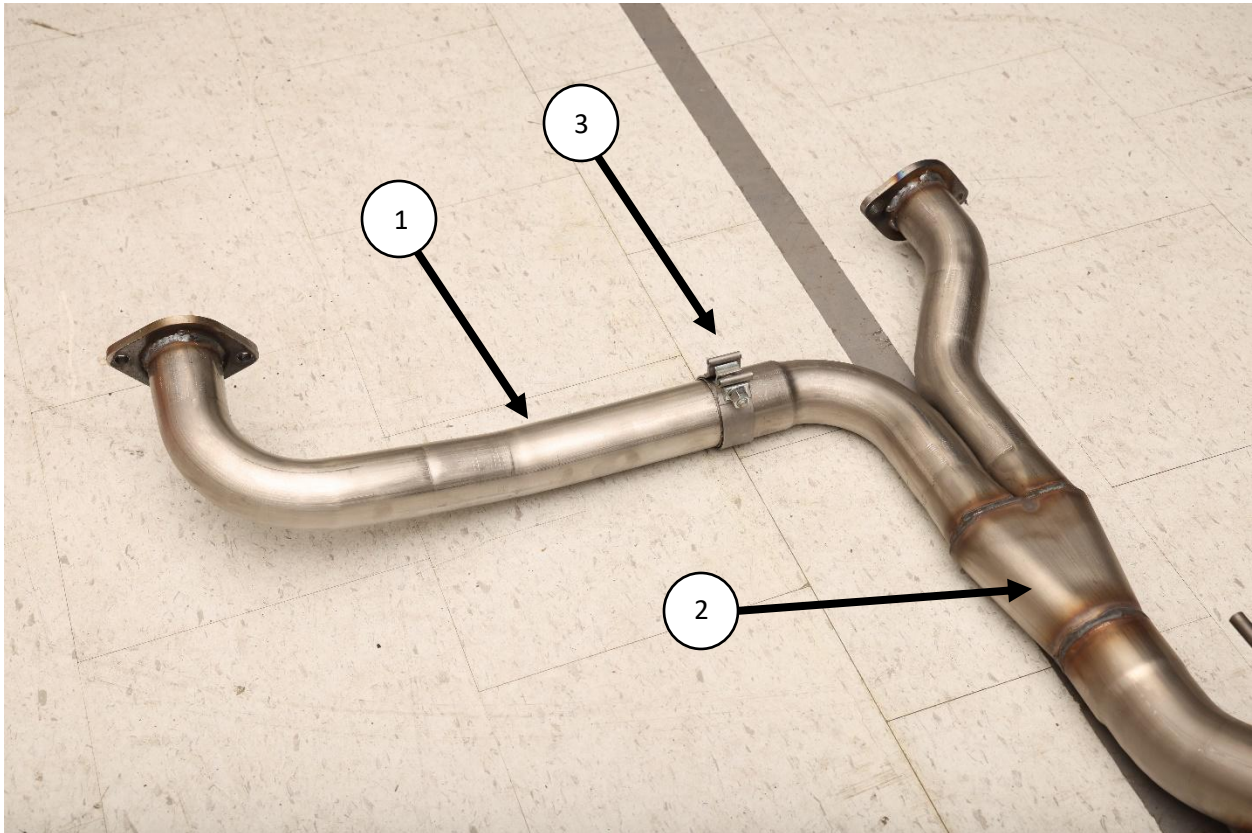

Figure.3
2. Install a 2.5" band clamp **(3)** on to the expanded end of the Left **Front** inlet pipe **(1)**. **Fig.3**
3. Install the Left Front Inlet pipe **(3)** into the expanded end of the Muffler assembly inlet pipe **(2)**. **Fig.3**